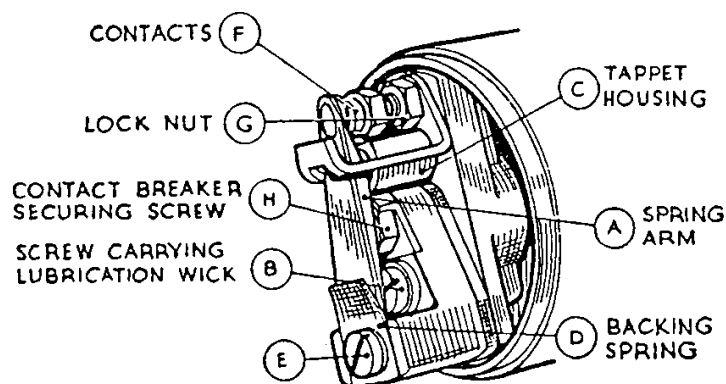

FIG. 38. FACE CAM CONTACT-BREAKER OF LUCAS ROTATING-ARMATURE MAGNETO SHOWN ASSEMBLED
The Contact-breaker (Face-cam Type). The cam and tappet of the face-cam type contact-breaker (Fig. 38) require lubrication approximately every 3,000 miles. To effect such lubrication, remove the complete contact-breaker as described below.
First release the spring blade and take off the contact-breaker cover. Now, referring to Figs 38 and 39, remove the screw (E) and the spring washer retaining the spring arm (A) to the body (L) of the contact-breaker,
The same contact-breaker is shown assembled in Fig. 38.